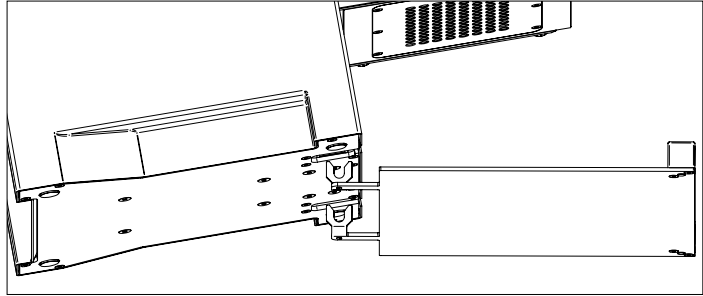

Figure 3: Tip-Touch Plate has to be attached in the corresponding slots.
1. Place the MultiMACS M96 Separator on a clean, stable, and planar laboratory bench. Tilt the MultiMACS M96 Separator by lifting the device slightly and attach the Tip-Touch Plate into the holes beneath the instrument as shown in figure 3.